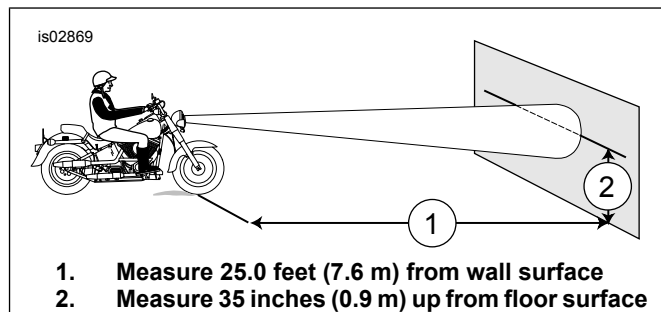

Figure 10. Horizontal Alignment Line
2. See Figure 10. Park motorcycle on level pavement in a low light area 25 ft (7.6 m) (1) from wall (measured from point directly below front axle).
3. Draw a horizontal alignment line 35 in. (0.9 m) (2) above floor on wall.